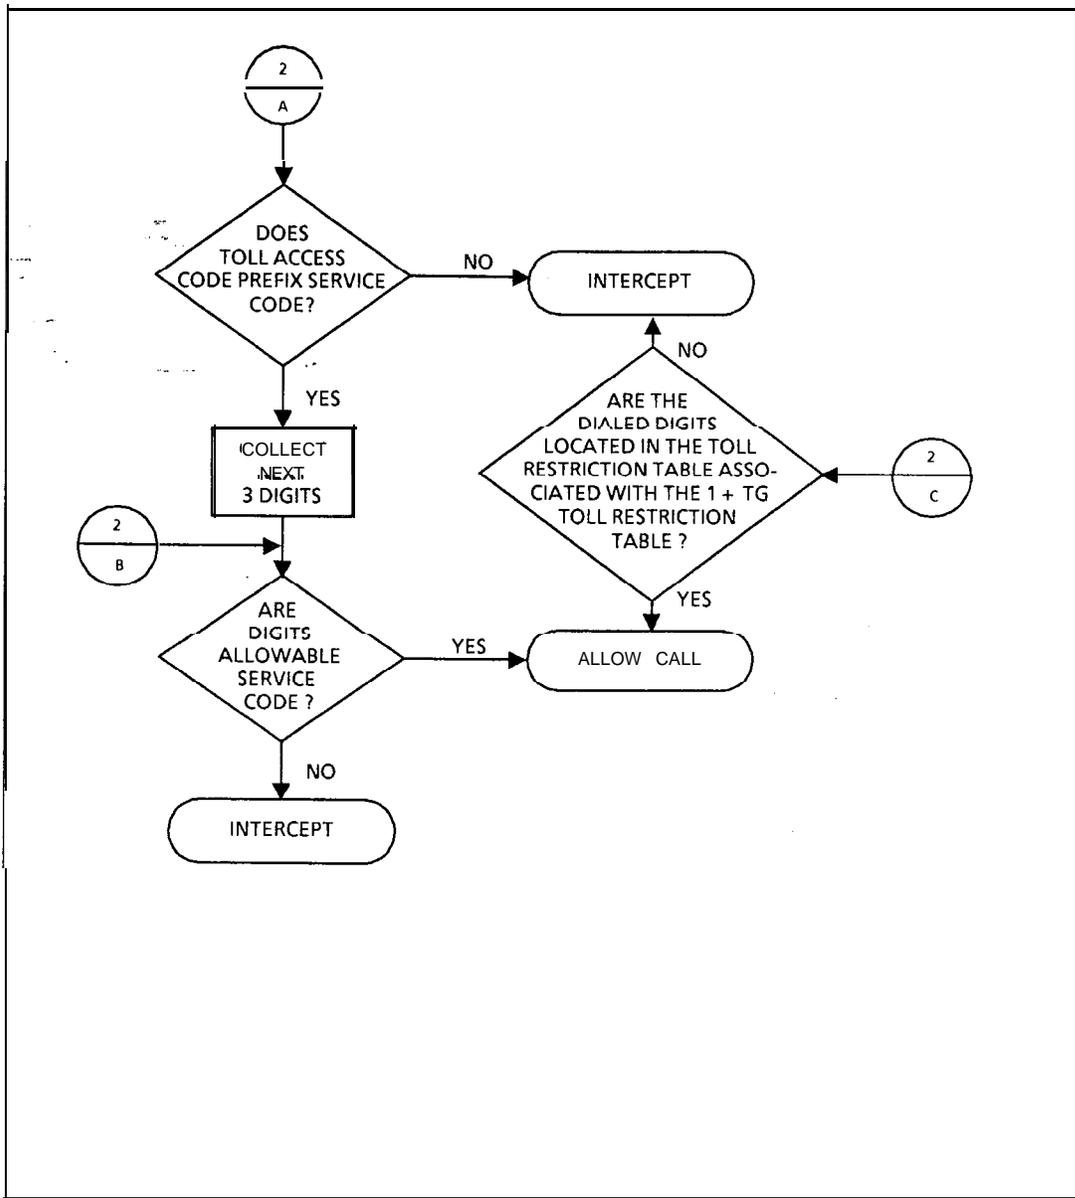

Figure 10.2B Trunk Group Toll Restriction Flowchart (Continued)
- A flowchart (Figure 10.2B) is included to explain toll restriction. The flowchart assumes that a station classed as toll restricted has dialed the trunk group access code. When toll restriction is placed on a trunk group, the flowchart explains the checkpoints that the system uses to determine the type of toll restriction that is to be used.